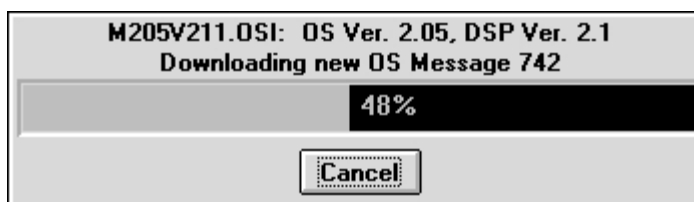

Figure 5-4 Download progress dialog.
6. The lights will continue to rotate with only brief pauses. You will also see a progress indicator on the PC’s screen similar to the one in Figure 5-4.